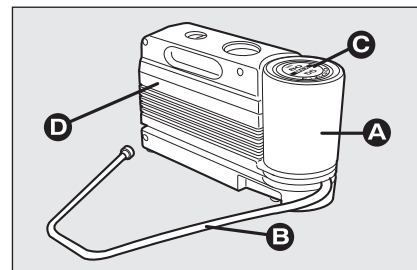

fig. 2
- ☐ bottle **A**-fig. 2 containing sealer and fitted with:
- filling pipe **B**-fig. 2;
- sticker **C**-fig. 2 bearing the notice “max. 80 km/h”, to be placed in a position visible to the driver (on the instrument panel) after fixing the tyre;
- ☐ compressor **D-fig. 2** including gauge and connections;